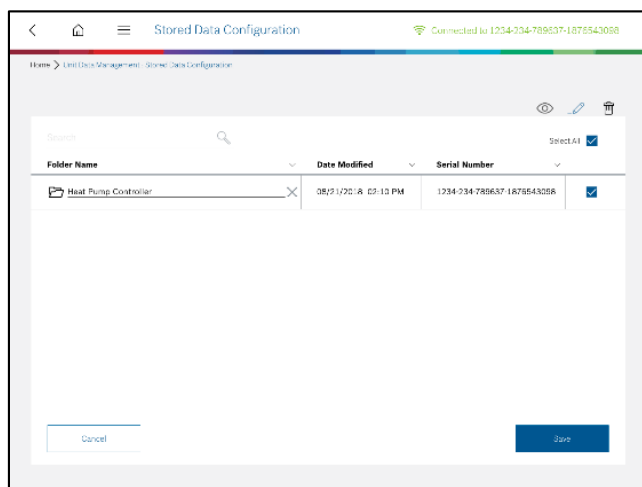

Figure 42: Edit Folder Name
2. Tap the “Edit” icon, then selected folder name will change into editable mode. See figure 42.